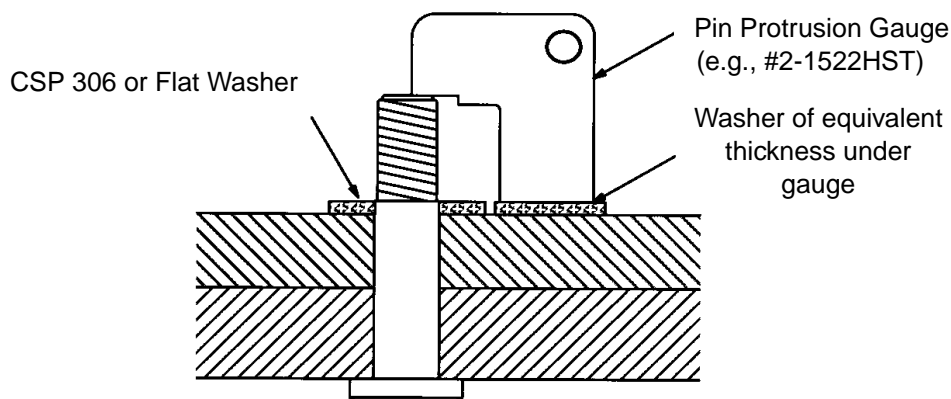

Figure 13 - Pin Protrusion Measurement when Washers are Used
- 5.6.2 Check the pin protrusion using a protrusion gauge. If a washer is to be used under a Hi-Lite collar, measure the pin protrusion from the surface of the washer (or an equivalent thickness) as shown in Figure 13.